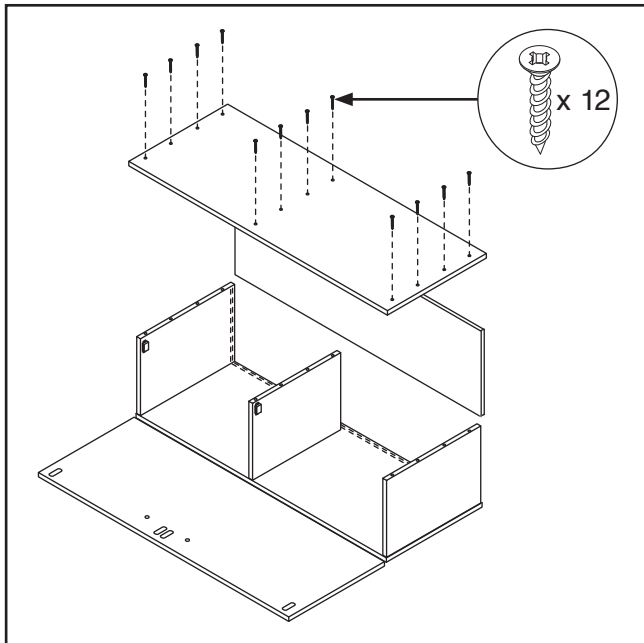

Figure 8. Attaching cabinet back and top panels.
6. Slide cabinet back panel into grooves on cabinet side and base panels and attach cabinet top panel with (12) M4 x 30 tap screws, as shown in **Figure 8**.